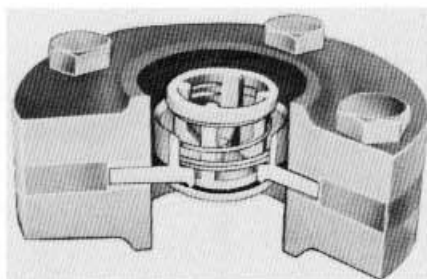

Figure 1
1. Insert type - consists of a seat, disc and spring and fits inside of a fitting or between flanges. See Figure 1.